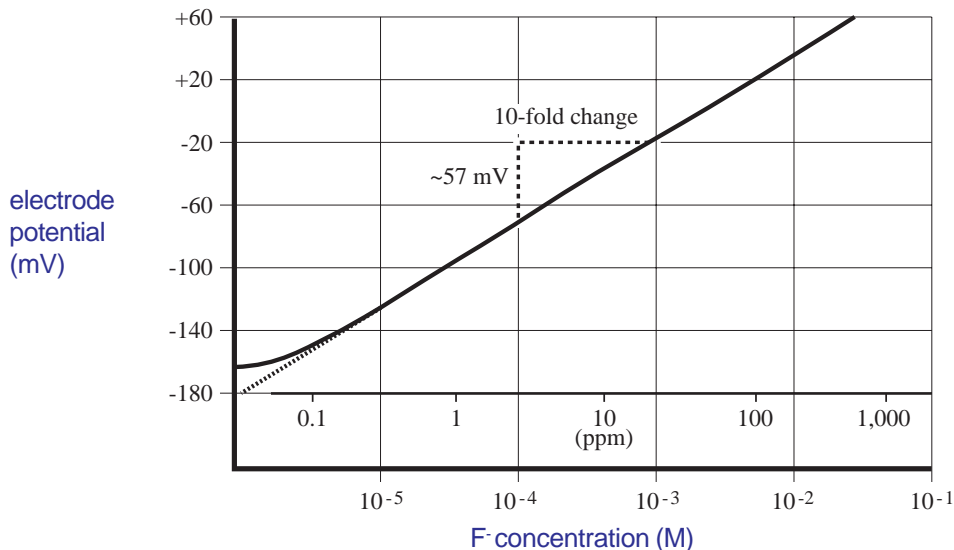

Figure 3
5. Using the semilogarithmic graph paper, plot the voltage reading (linear axis) against the concentration (log axis). Extrapolate the curve down to about 1.0×10^{-5} M. A typical calibration curve can be found in Figure 3.